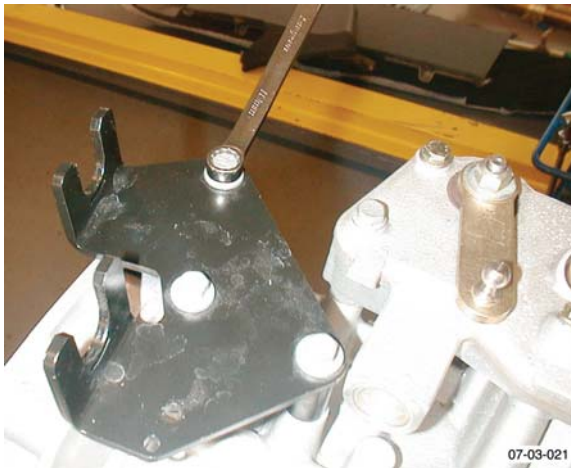

Figure 4
- Remove bolts (x3) from selector cable bracket to transaxle and collect bracket (see Figure 4).